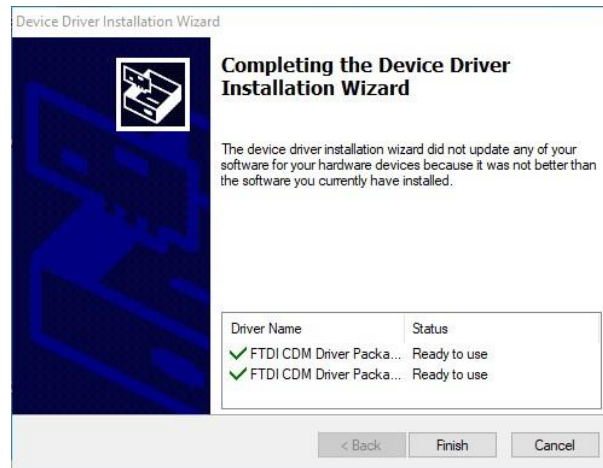

Figure 4-4: Message screen 2
Step 5: The Installation Complete window appears (**Figure 4-4**). Click **Finish** to exit.